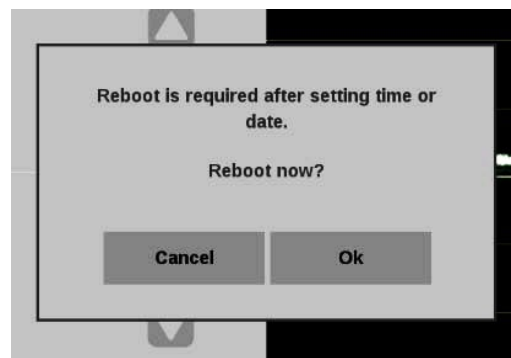

Figure 86: Time and date change reboot message
9. The message box, shown in Figure 86, opens and asks whether you want to reboot the instrument now or later to implement the time and date changes. Select one of the options: